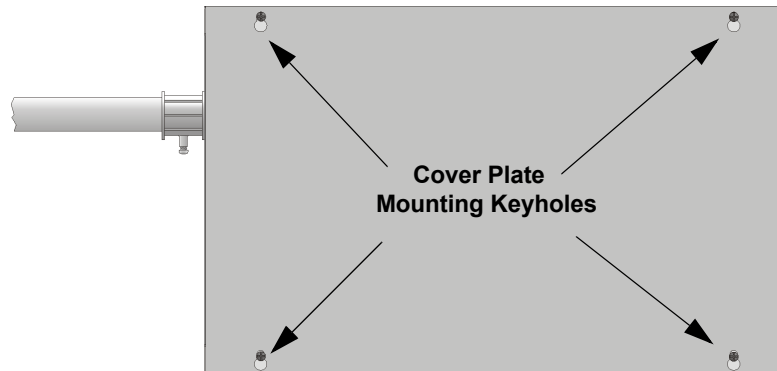

Figure 4-8 Cover Plate Mounting Keyholes and Cover Mounting Screws Alignment
6. Align the cover plate mounting keyhole over the cover mounting screws. See Figure 4-8.
7. Slide the cover into place and tighten the cover mounting screws. See Figure 4-8.